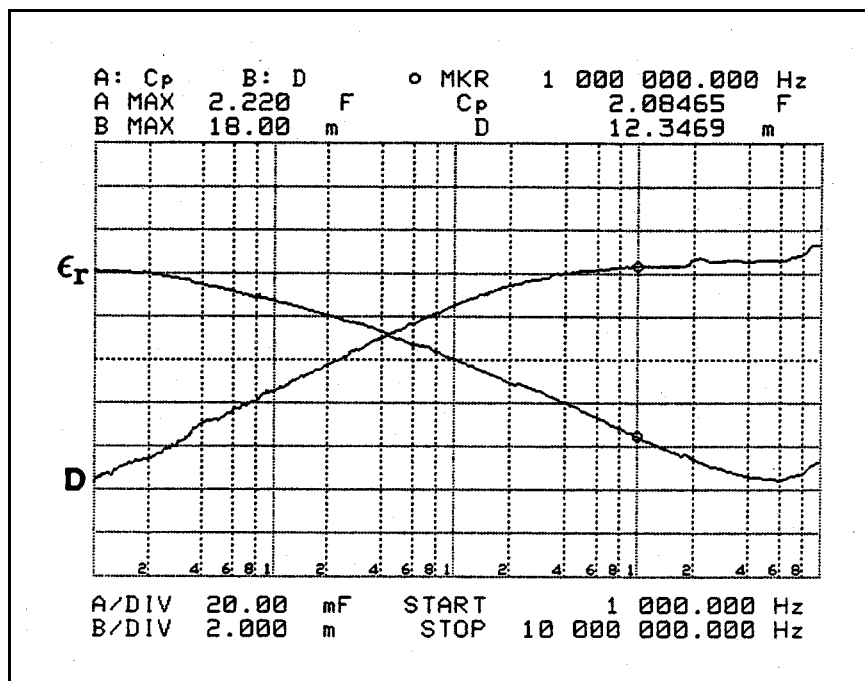

Figure 3-34.
20. Press **(DISPLAY)**, **more**, **AUTO SCALE A** then the measurement result is displayed as shown in Figure 3-34 .